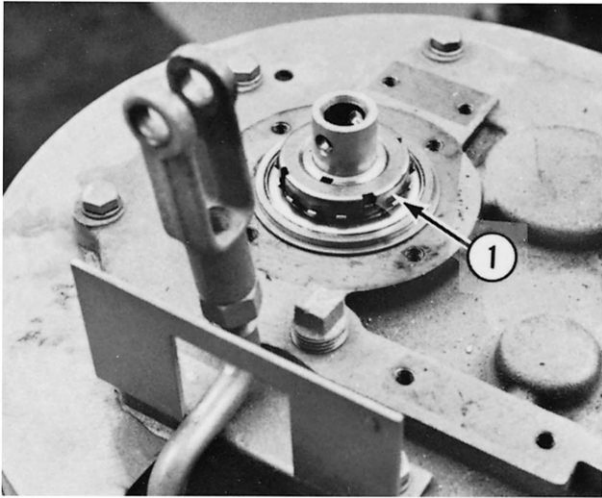

**Fig. 11-3**
I. Disconnect the clutch rod (1, Fig. 11-3) from the hub.
K. Remove the upper bearing retainer (2, Fig. 11-3).